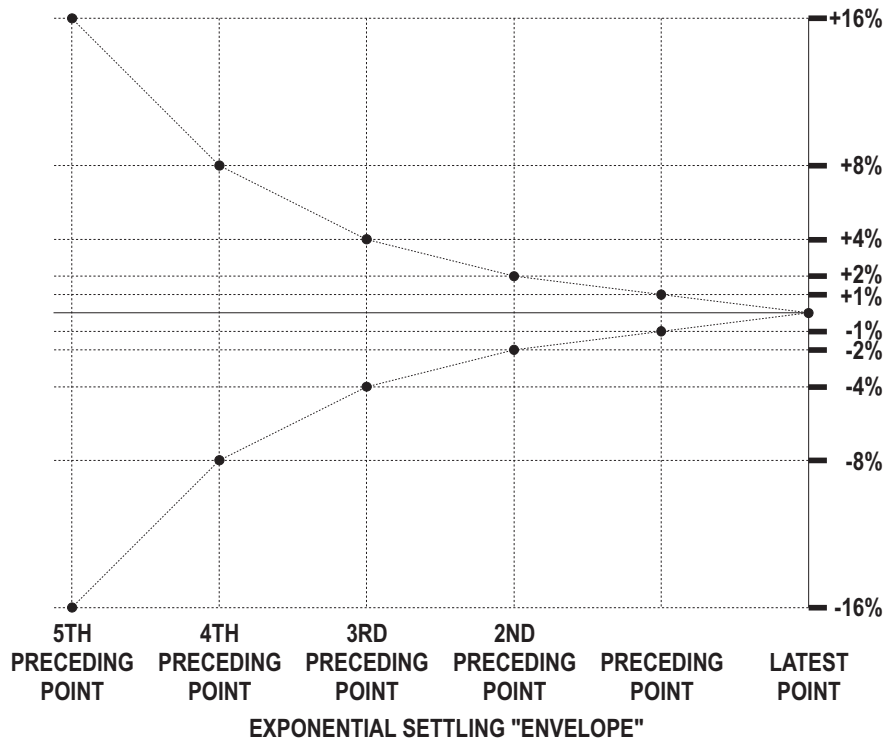

Figure 15-27 Graphic Representation of Exponential Settling Criteria, 1% Tolerance and 6 Points
If the **Exponential** algorithm is selected, the newest reading (N) must agree with the immediately preceding reading (N-1) within the Tolerance value, with the reading before (N-2) that within twice the Tolerance value, with the reading before that (N-3) within four times the Tolerance value, etc. Figure 15-27 shows the “envelope” within which a succession of readings must fit if Tolerance is set to 1%. Exponential is the recommended settling algorithm for most audio applications, since typical device transients tend to die away in an exponential fashion. Exponential thus will usually provide repeatable results to the Tolerance acceptable to the user in the minimum length of time.